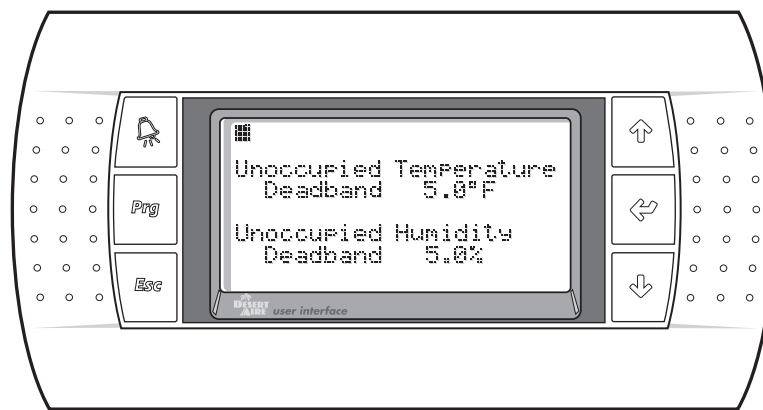

Figure 59
2.6.2.4 Unoccupied Deadbands (Figure 59)